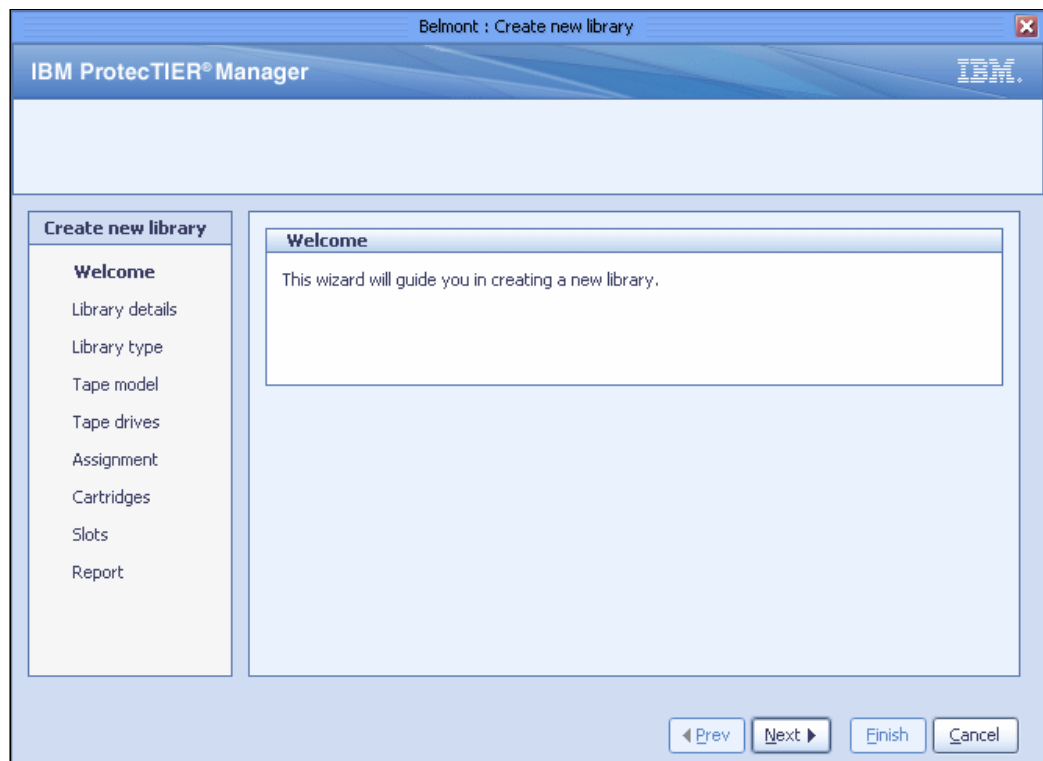

Figure 3-1 Create new library - Welcome window
2. From the menu bar, click **VT** → **VT Library** → **Create new library**. The Create new library wizard Welcome window opens (Figure 3-1).